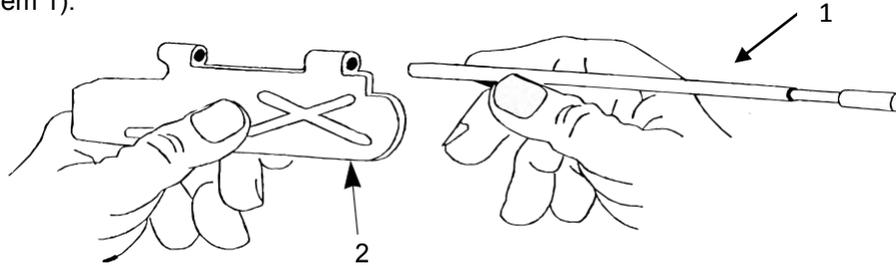

Figure 15. Ejection Port Cover Assembly and Grooved Headless Pin.
1. Start the grooved headless pin into the right-hand hinge while holding the ejection port cover with the catch toward you with the hinges up (Figure 15, Item 2) and the grooved headless pin with the notch to the right (Figure 15, Item 1).